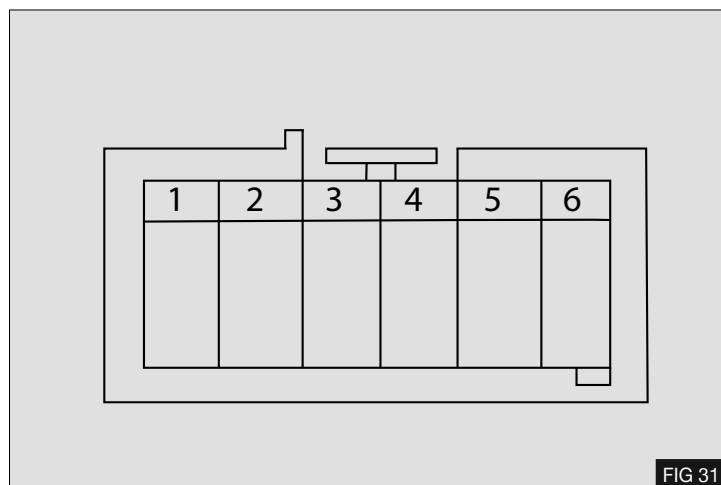

FIG 31
4. When the correct tension (new belt level) has been achieved (see table). Torque tensioner lock nut (P) to 25Nm / 18lb. ft. using a calibrated torque wrench - Fig 31
3. The fast idle is activated by connecting pin 1 of the 6 way connector to earth – Fig 31